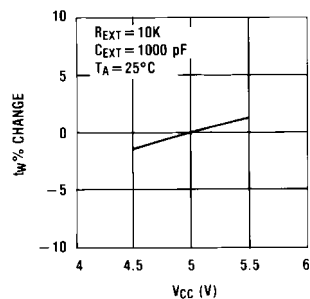
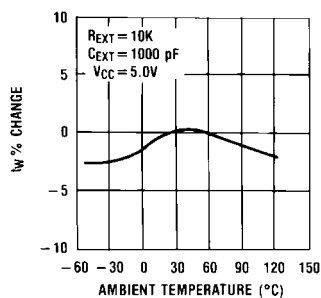

FIGURE 6.
FIGURE 7.
8. Output pulse width variation versus V_{CC} and temperatures: Figure 6 depicts the relationship between pulse width variation versus V_{CC} , and Figure 7 depicts pulse width variation versus temperatures.